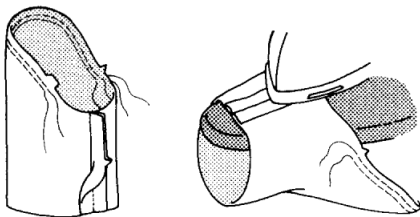

Figure 6
3. With right sides together, stitch the underarm sleeve seam. Finish the seam edges using a technique appropriate for the fabric. (For assistance refer to *Seams and Seam Finishes* FCS2-304, www.ca.uky.edu/agc/pubs/fcs2/fcs2304/fcs2304.pdf) Press seam. (Figure 6).